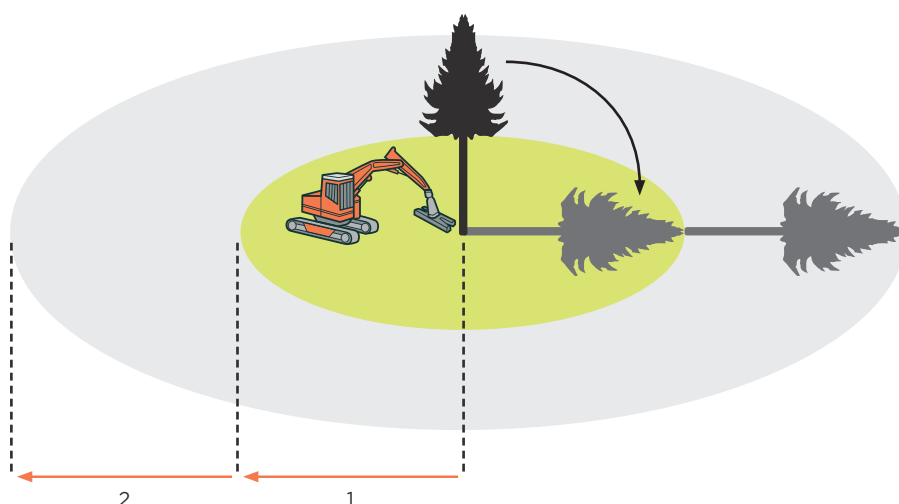

FIGURE 17:
20.3.3 This is the minimum zone to protect workers from sailers or breakage from the felled or nearby trees (Figure 17). There may be circumstances when a larger zone is needed.